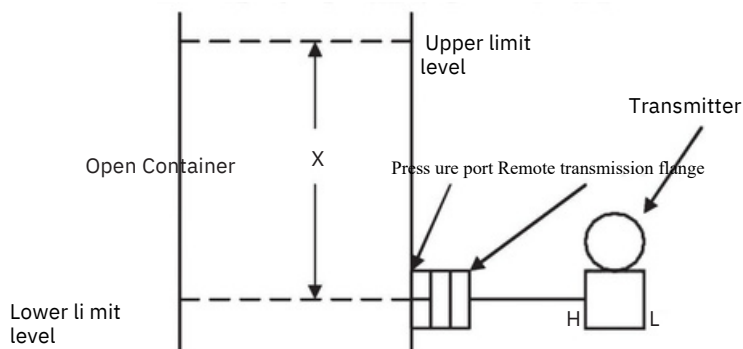

Figure 3 Transmitter and pressure port level
- ① When the transmitter is installed at the same level as the pressure tapping port and the lower limit liquid level is level with the pressure tapping port (see Figure 3), the measurement range value of the transmitter is determined as follows: x is the vertical distance between the upper limit liquid level to the lower limit liquid level to be measured: X